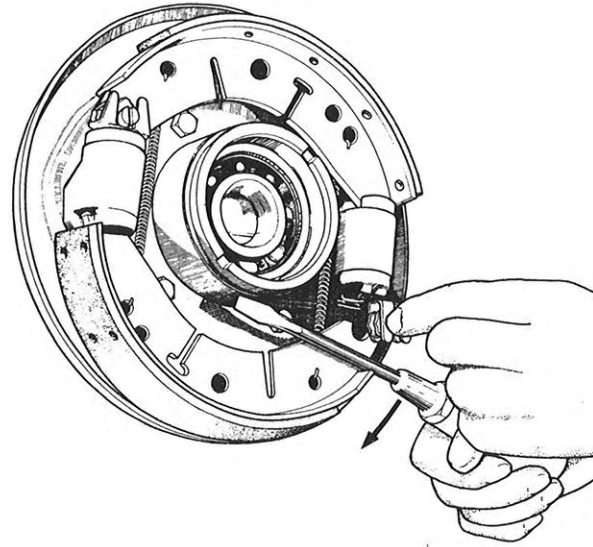

Fig. 14. Removal of brake shoes.
3. Remove the adjuster, see Fig. 14.